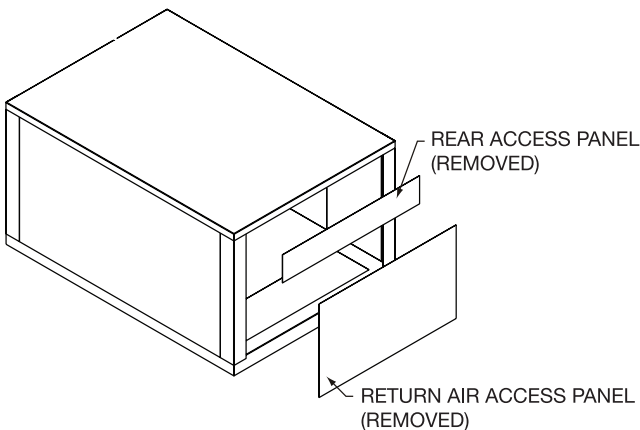

Fig. 29 — Remove Access Panel(s) from Unit
5. Remove the return air access panel from unit and the rear access panel(s) if applicable as shown in Fig. 29.